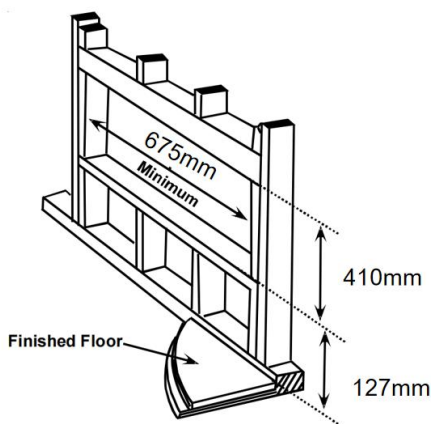

Figure 1
1. The size of the wall opening must be correct, and the minimum wall opening size is shown in Figure 1.